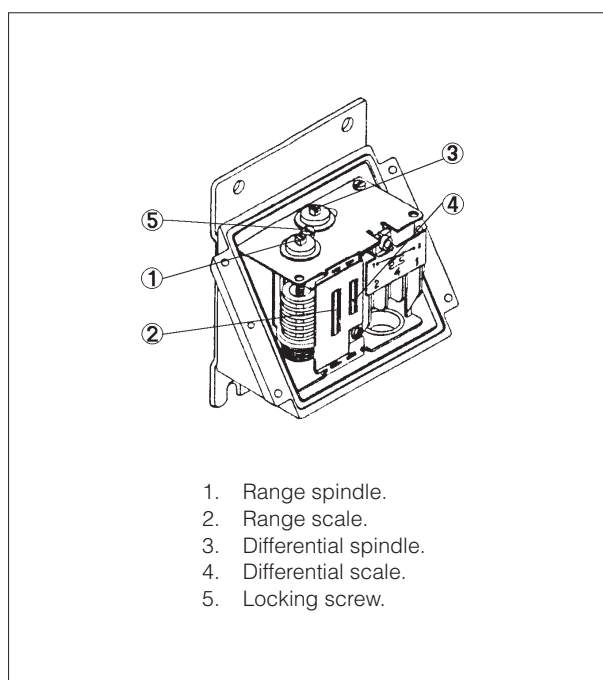

Fig. 1.
1) When the pressostate cover is removed and locking screw pos. 5, fig. 1 is loosened, the range can be set with the spindle pos. 1 while at the same time the scale pos. 2 is read.